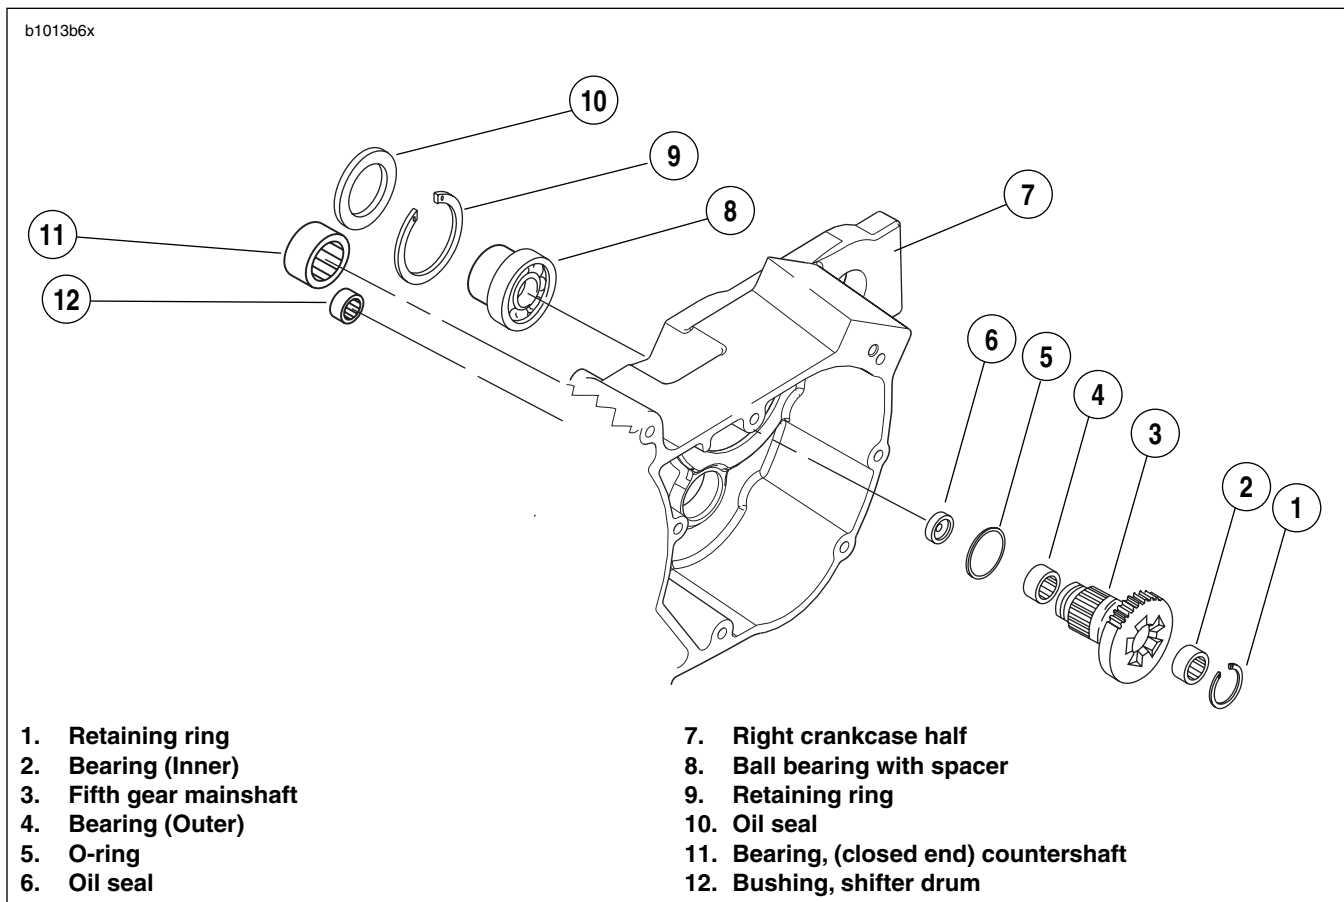

Figure 6-83. Transmission Assembly-Right Crankcase Half
2. See Figure 6-83. Install o-ring (5) into groove in main drive gear. Lubricate o-ring with GENUINE HARLEY-DAVIDSON FORMULA+ TRANSMISSION AND PRIMARY CHAINCASE LUBRICANT.
See Figure 6-83. Make sure to install **new** o-ring (5) onto main drive gear before installing main drive gear into crankcase.
4. At outside of case, place INSTALLER CUP (Part No. HD-35316-12) (4), NICE BEARING (5), FLAT WASHER (6) and NUT (7) over end of bolt. Tighten nut until main drive gear bottoms against main drive gear bearing.
6. See Figure 6-83. Tap in **new** oil seal (6) at threaded end of main drive gear to a depth of 0.060-0.030 in. (1.524-0.762 mm).
- See Figure 6-83. From inside transmission case use a suitable BEARING DRIVER/PULLER to remove countershaft bearing (8) from crankcase bore.
- See Figure 6-83. From the outside of the case place the needle bearing (11) open end first next to the bearing bore. Hold the driver squarely against the closed end of the bearing and tap the bearing into place. The bearing is properly positioned when it is driven flush or 0.030 in. (0.762 mm) below the outside surface of the case.
- See Figure 6-83. Using SNAP-ON BUSHING DRIVER SET (Part No. A-157C) with a 1/2 inch adapter (Part No. A157-8), install **new** bushing (12).